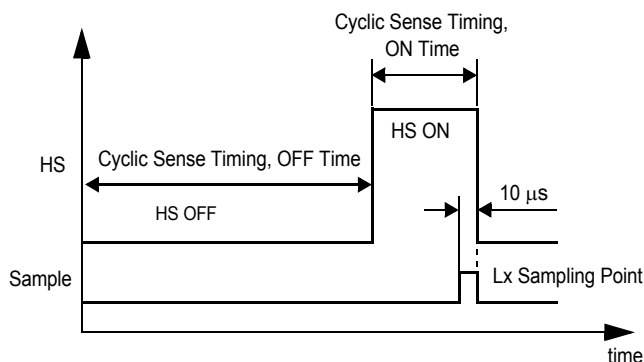

**Figure 30. HS Operation When Cyclic Sense Is Selected**
- TIM2—Selects an appropriate timing for sensing the wake-up circuitry or cyclically supplying devices by switching the HS on or off. TIM2 is selected when bit D3 is 1 (Table 33). Figure 30, page 54, describes HS operation when cyclic sense is selected. Cyclic sense timing characteristics are described in Table 35, page 54.